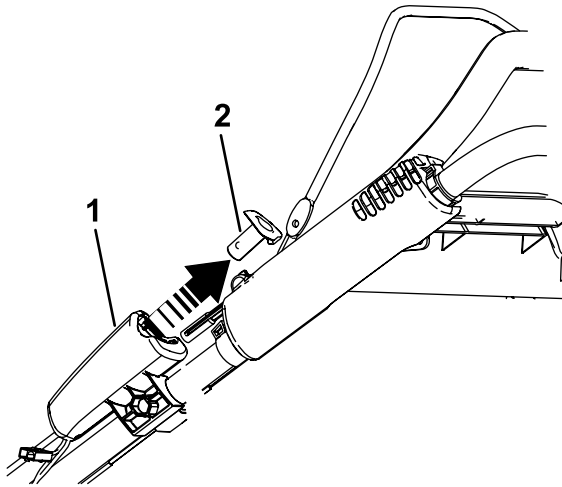

Figure 24
1. Remove the electric-start button as shown in Figure 24 (electric-start model only).